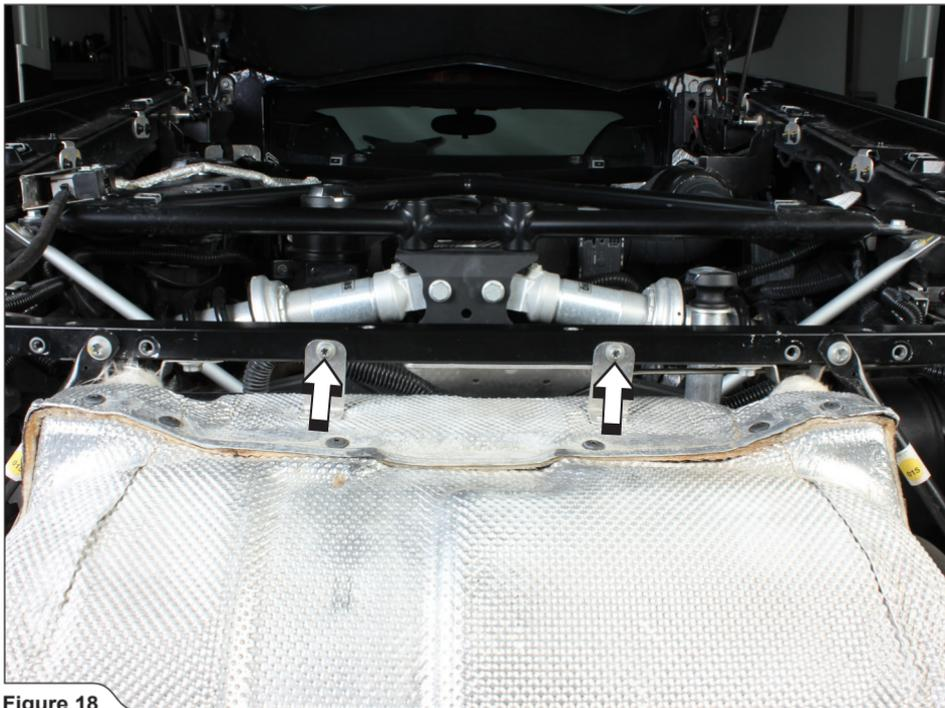

Figure 18
10. Unscrew the marked heat shield bolts (**Figure 18**).